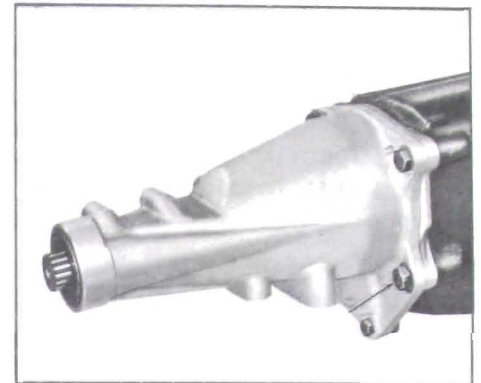

Figure 4-84—Rear Bearing Retainer Location
8. Rotate bearing retainer to expose countershaft and lock key. See Figure 4-84.